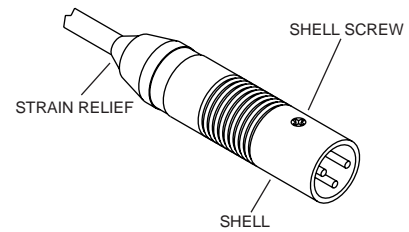

Figure 1.
1. Release the shell by unscrewing the shell screw. See Figure 1.